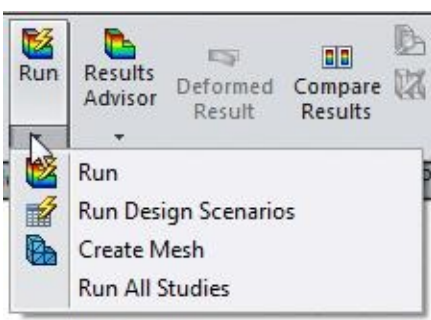

Figure-11. List of tools with Create Mesh tool
- Click on the down arrow below the **Run** button in the **Ribbon**. The list of tools will be displayed; refer to Figure-11.